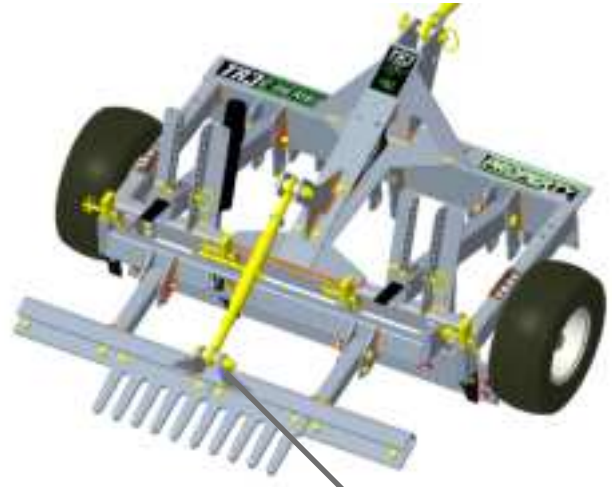
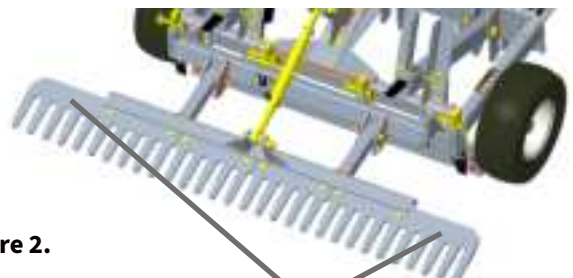
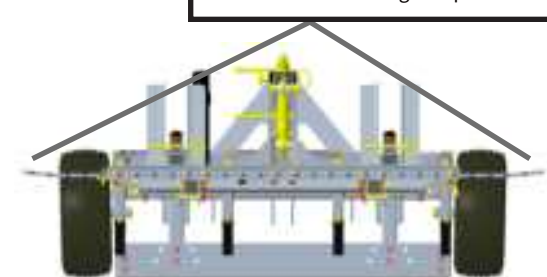

Figure 1.
Figure 2.
Figure 3.
1. Remove bolt (1-1/8" Hex) that secures the Toplink to the Rake attachment from Rake attachment mounting bracket. Position Toplink end to line up with Rake attachment brackets holes and slide bolt thru brackets and Toplink and tighten nut (see **Figure 1**).
2. For Units that are shipped with outer Rake sections removed (as shown in **Figure 1**), remove bolts and nuts (3/4" Hex) from Rake support bracket. Set End Rake sections on Rake support bracket and re-insert bolts and nuts and tighten (see **Figure 2**). Bent ends of Rake Sections are to be angled upwards (see **Figure 3 and 3A**).